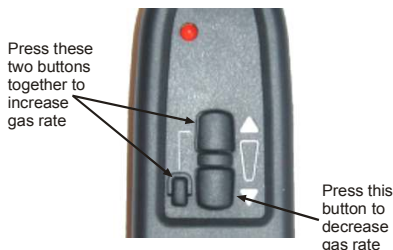

Figure 6 - Handset Operation
6. Using the HANDSET (as shown in Figure 6) press and hold **both the top and the small button together** until the main burner goes to full rate and clicking can be heard from the valve. During this process the main burner will ignite from the pilot.